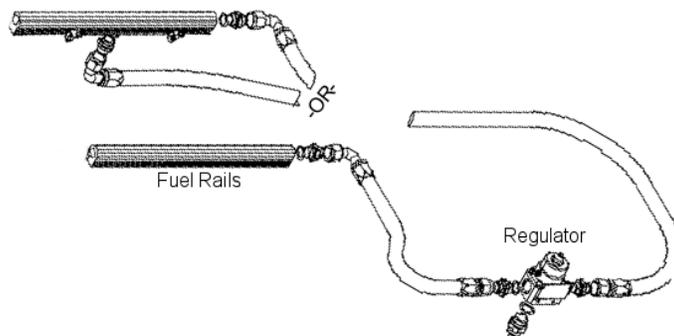

**FIGURE 3-1**
- 3-3. Install one of the supplied AN-10 o-rings onto the ORB (cut-off) side of two AN-10 cutoff to AN-08 reducer union fittings, if not already installed, and install in each of the AN-10 ports located on the sides of the supplied fuel pressure regulator. Install one of the supplied AN-06 o-rings on the cutoff side of the ORB-06 to AN-08 male flare fitting, if not already installed, and install in the AN-06 port located on the bottom of the supplied fuel pressure regulator. See **FIGURE 3-1**.